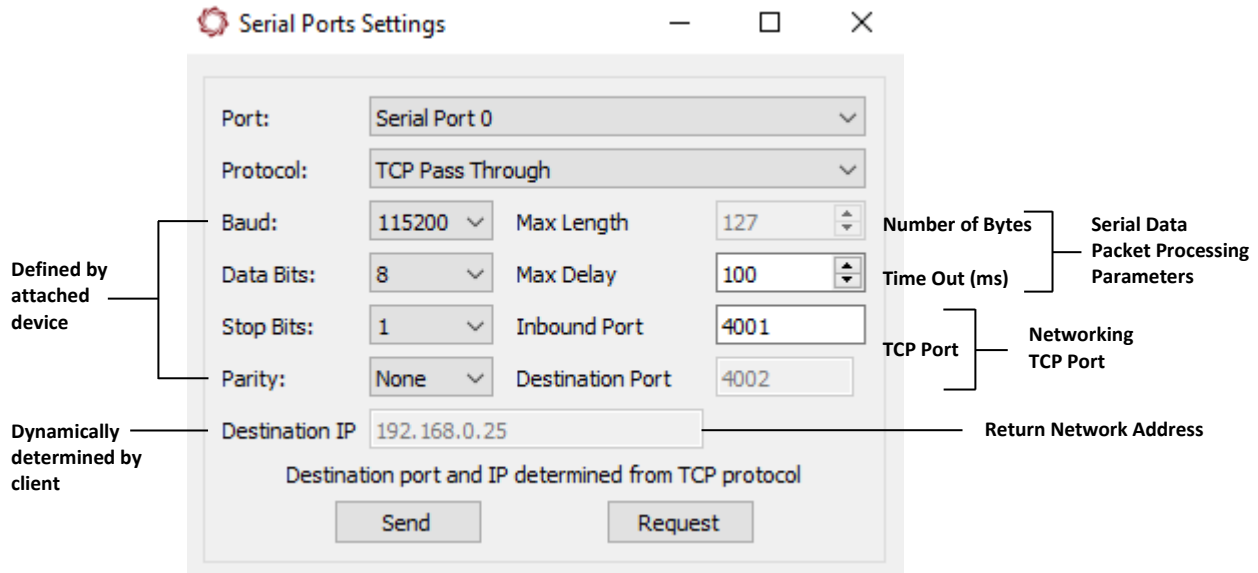

Figure 3: Serial Passthrough Settings Example
2. Click the *Comms* tab and enter the following settings in the *Passthrough Settings* dialog window (Figure 3):